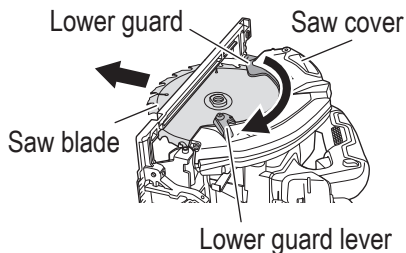

Fig. 14
- (2) While holding the lower guard lever to keep the lower guard fully retracted into the saw cover, remove the saw blade (Fig. 14).
The lower guard (refer to Fig. 14) serves to protect your body from coming into contact with the saw blade. Make absolutely certain that the cover smoothly performs to cover the saw blade. If the lower guard should not move smoothly, never use it without repairing it. In such a case, get in touch with the store where you bought the circular saw or the HIKOKI AUTHORIZED SERVICE CENTER for necessary repair.